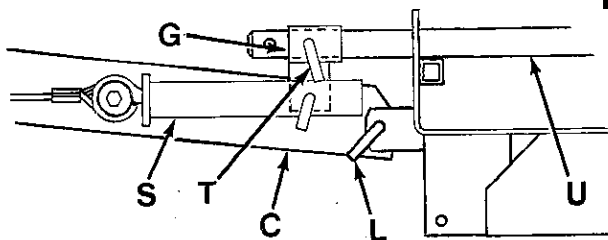

FIG. 14
4. Install rear stabilizer pan (C) to mounting clevises at rear of mower deck using locating pins (L). (See Fig. 14) Secure locating pins (L) with hair cotter pins.